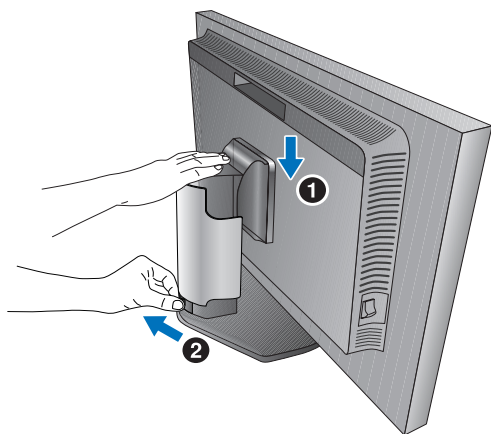

Figure B.1
2. Height adjustment is locked by a lock switch. Place a hand on top of the stand to push down to the lowest position. Slide the lock switch to unlock the stand and raise the monitor screen (**Figure B.1**).